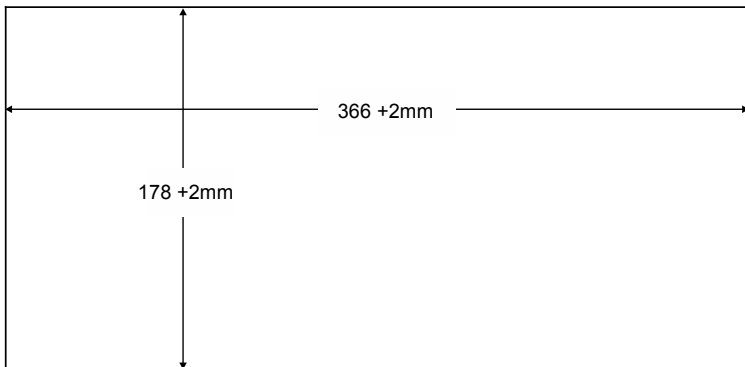

Figure 3: Cut out Dimensions
3. Following the **inside** edge of the template, cut a hole in the table surface with a sabre or keyhole saw according to the dimensions shown in Figure 3 (not to scale).